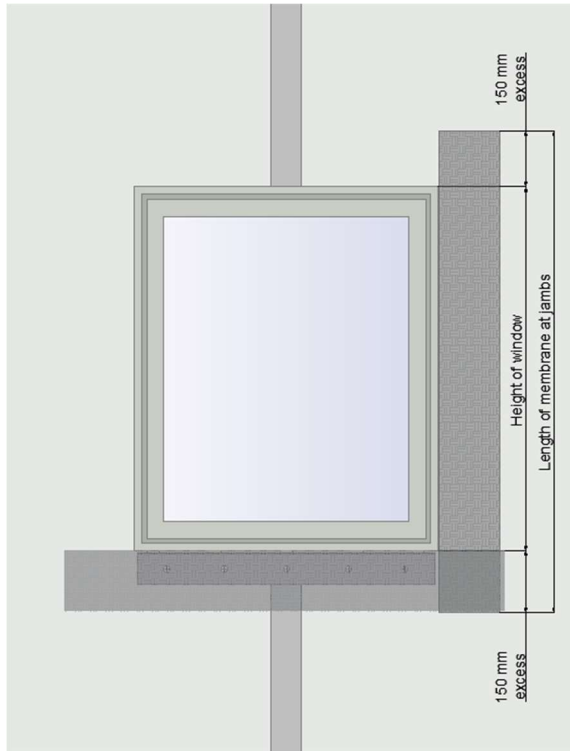

Figure 9
- Measure the length of membrane required plus 150 mm excess at each end (Figure 9).